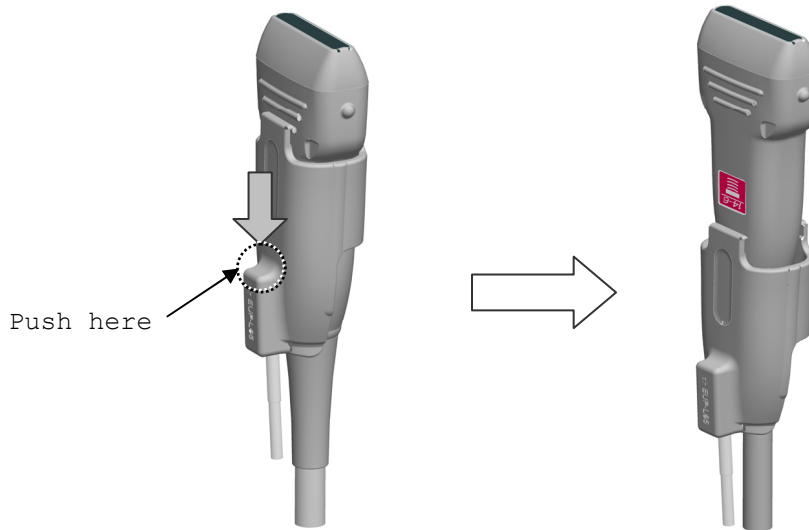

Fig. 6 How to release the Magnetic sensor attachment from the probe
- 1) Push the magnetic sensor attachment and release it from the probe as shown in Fig. 6.